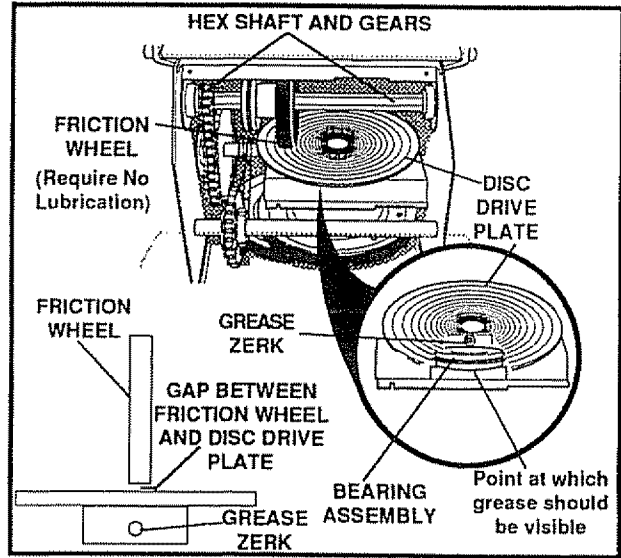

FIG. 18
- Disc Drive Plate - Using a hand grease gun, lubricate with a Hi Temp EP Moly grease, zerk located beneath the disc drive plate (See Fig. 18 inset) every 25 hours and at the end of the season and/or before storage. To grease zerk, turn disc drive plate clockwise by hand until zerk is clearly visible at front center. DO NOT overfill or allow grease to come in wheel or damage will result. Fill zerk only until grease becomes visible below bearing assembly located under grease zerk. See Lubrication Chart on page 15.
- Hex Shaft and Gears - Hex shaft and gears require no lubrication. All bearings and bushings are lifetime lubricated and require no maintenance (See Fig. 18).
NOTE: For storage, the hex shaft and gears should be wiped with 5W-30 motor oil to prevent rusting (See Fig. 18).